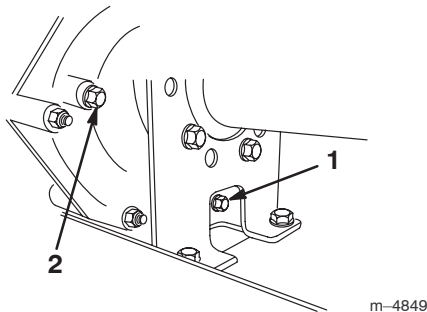
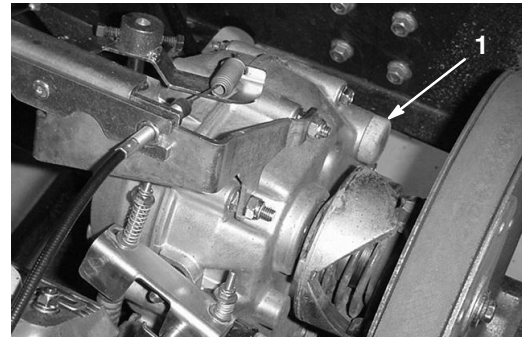

Figure 42
Figure 43
2. Remove the drain plug from the right side of the reservoir (Fig. 42) and let the fluid flow into a drain pan. Install and tighten the plug when the fluid stops draining.
3. Fill the reservoir (Fig. 43) with approximately 1-1/2 qt. (1.4 liters) of SAE 10W30 motor oil or until the oil level is at the bottom of the level indicator hole (Fig. 42).